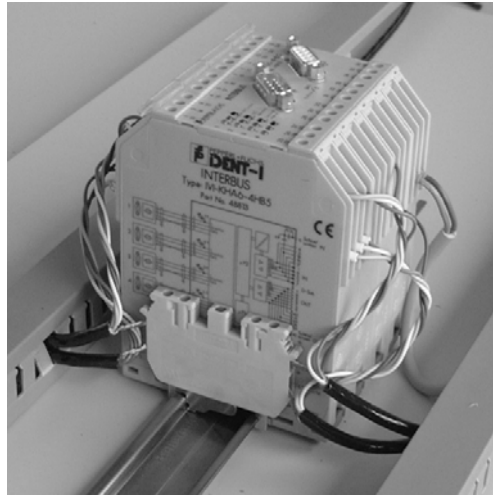

Figure 5.5 Terminal block with connecting cables
The screen of the read/write head lead is connected on both sides to earth (PE) with low resistance and low induction. For that the attached terminal block can be used (see Figure 5.5).